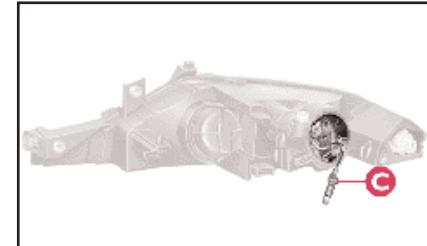

fig. 12
- 2) Slide out bulb holder C (fig. 12) by turning it slightly to make it easier to release.